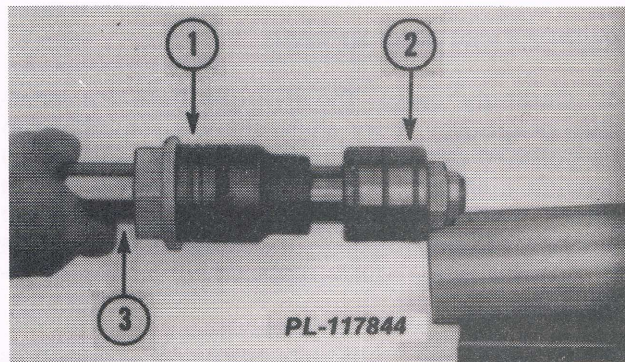

Fig. 17
6. Remove the piston (2, Fig. 17) and front head (1, Fig. 17) from the piston rod (3, Fig. 17).